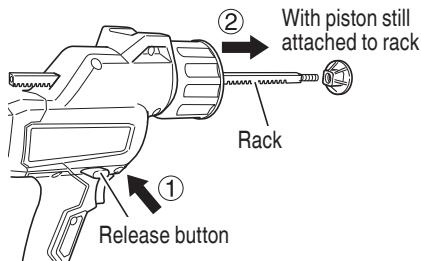

Fig. 12
(3) While pressing the release button to release the lock, pull the rack out from the front side of the main body. (Fig. 12)